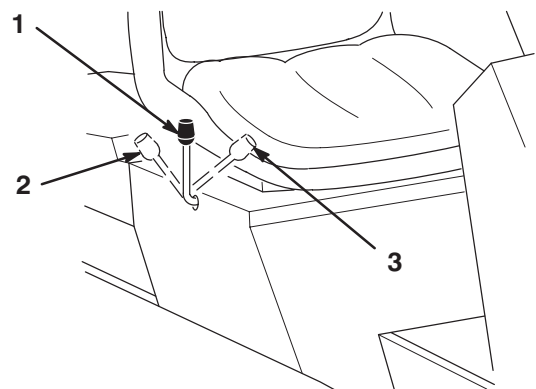

Figure 15
The implement lift lever (Fig. 15) is used to raise and lower various attachments.
2. Pull implement lift lever (Fig. 15) rearward to raise attachment to the desired height.
2. Push implement lift lever (Fig. 15) forward to lower attachment.